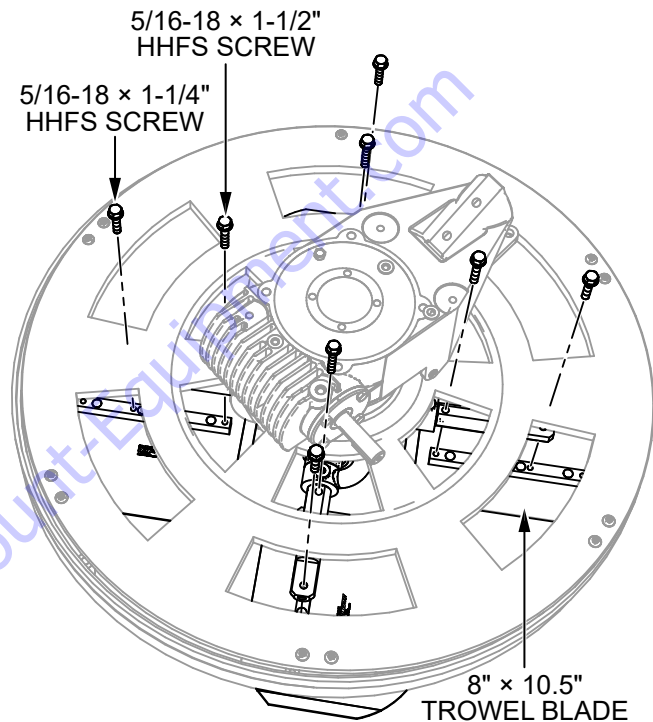

Figure 20. 10.5-Inch Trowel Blade Installation
- Secure four 8" x 10.5" trowel blades to the spider assembly (Figure 20) with the four 5/16-18 x 1-1/4" HHFS screws and four 5/16-18 x 1-1/2" HHFS screws that were removed in step #1.